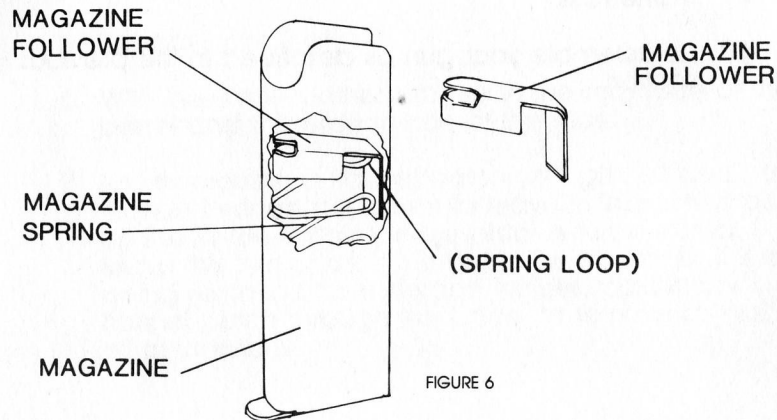

FIGURE 6
D. CLEANING THE MAGAZINE (See Figure 6)